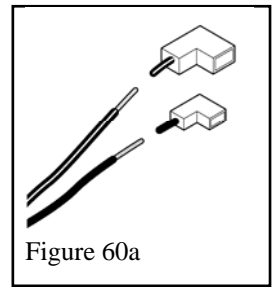

Figure 60a
- Cut off the "L" terminals from the switch wires **on the remote control receiver** and remove insulation from approximately 1/4" at ends of wires. See figure 60a.
- Cut off the “L” terminals from the switch wires **on the remote control receiver** and remove insulation from approximately ¼” at ends of wires. See figure 60a.